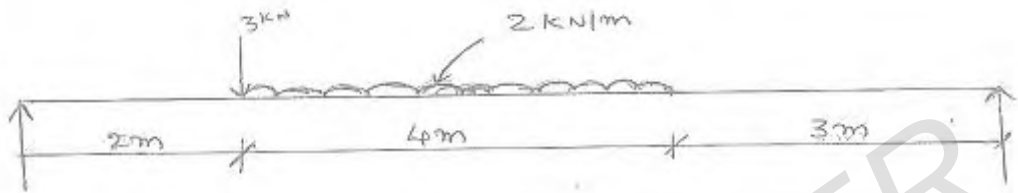

Figure 1
5. Sketch the shear force and bending moment diagrams showing the salient values for the loaded beam shown in the figure1 below. [16]